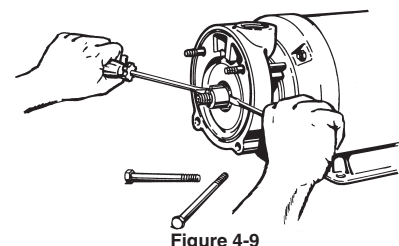

Figure 4-9
f. Holding the screwdrivers at approximately 3 o'clock and 9 o'clock, push the handles in toward the motor body, using the motor bracket for leverage. Refer to Figure 4-9. This pro-